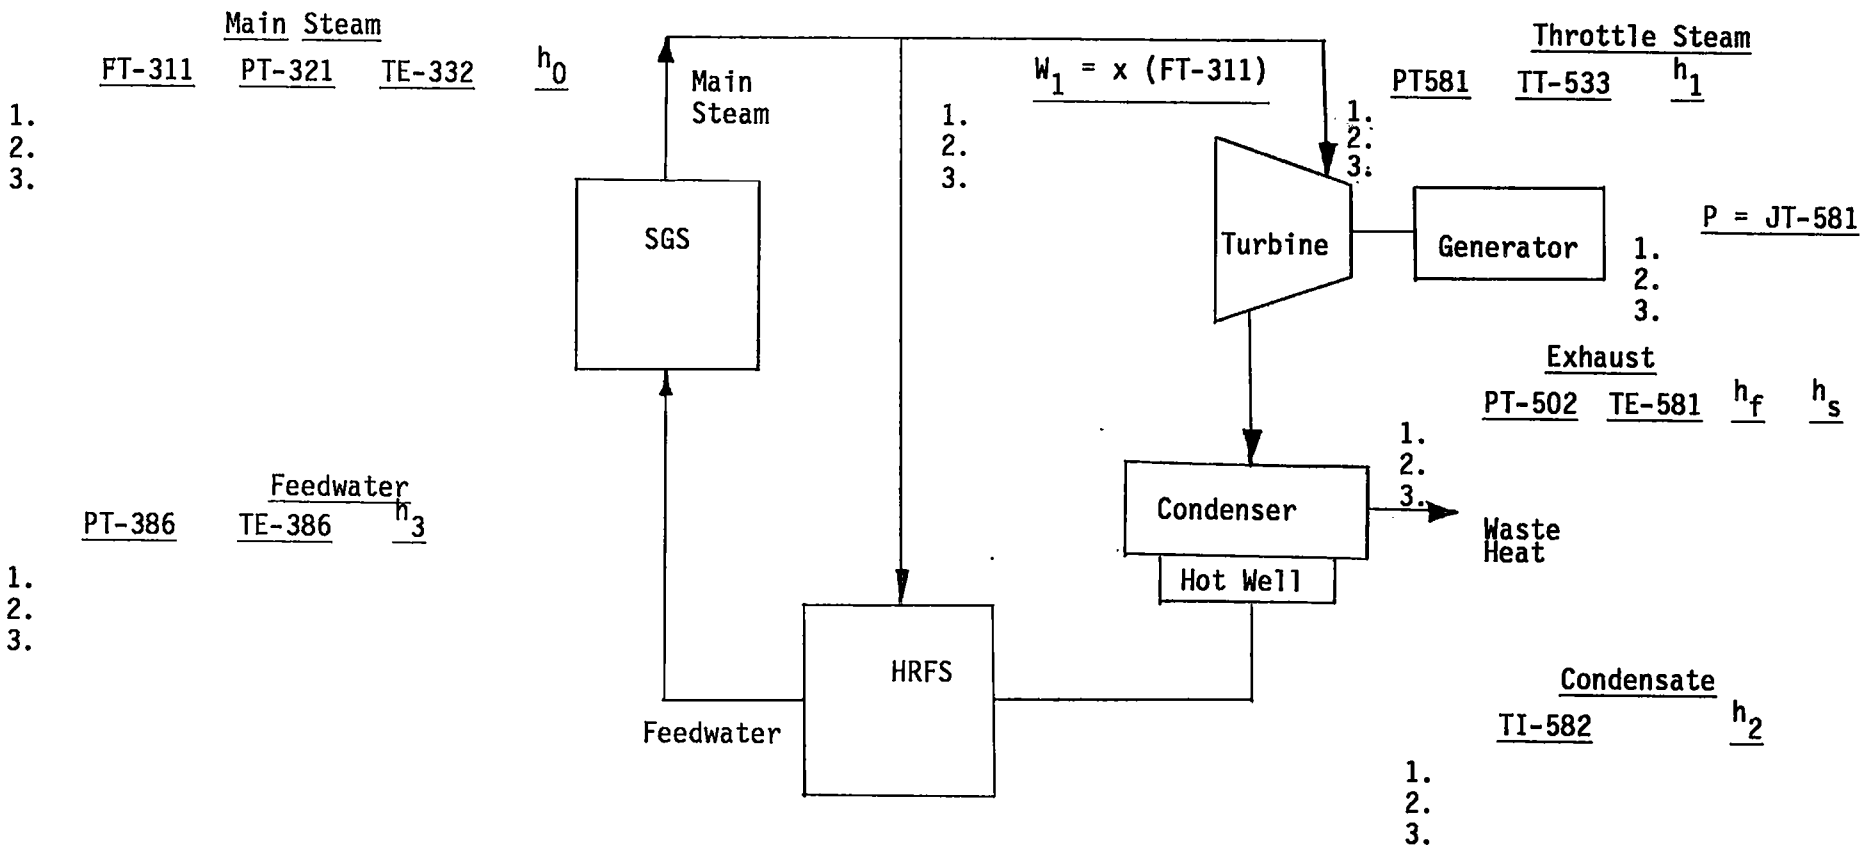

Figure 5.3 EPGS Performance Worksheet
2. Record the water, steam, and generator operating data on the EPGS performance worksheet (Figure 5.3).